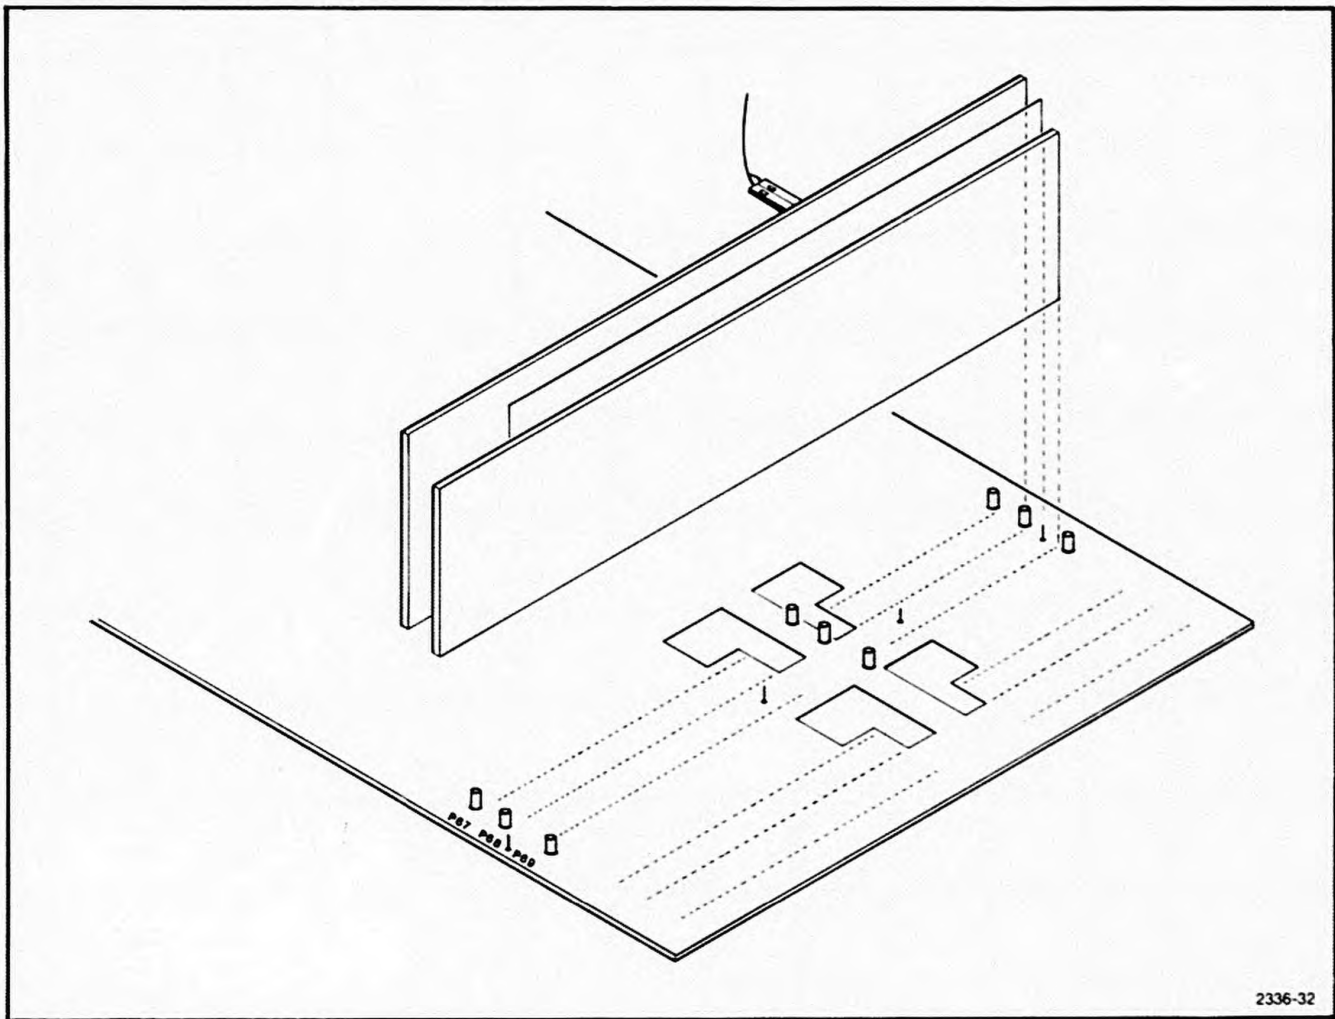

Fig. 3-2. Installation of the TSG15 in a 1411.
2. Position the shield board over the shield mounting pins, located between the circuit board pins on the Interface board. See Fig. 3-2. Seat the shield board firmly on the Interface board.
3. Position the A51-1 Pulse & Bar Output board over the middle row of Interface pins; use the plastic guides for proper pin alignment. See Fig. 3-2. Seat the board firmly on the Interface board. The Pulse & Bar Output board should be mounted on P56 (single-width SPG only), P59, P62, P65, P68, or P71.
4. Position the A50-1 Pulse & Bar Logic board over the right set of Interface pins. See Fig. 3-2. Align the board pins, using the plastic guides, and seat firmly on the Interface board. The Pulse & Bar Logic board, mounted adjacent to the Pulse & Bar Output board, occupies P57 (single-width SPG only), P60, P63, P66, P69, or P72 depending on the placement of the Pulse & Bar Output board.